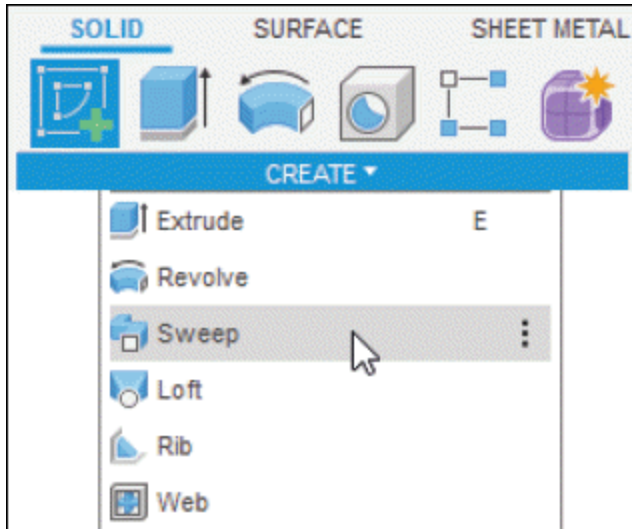
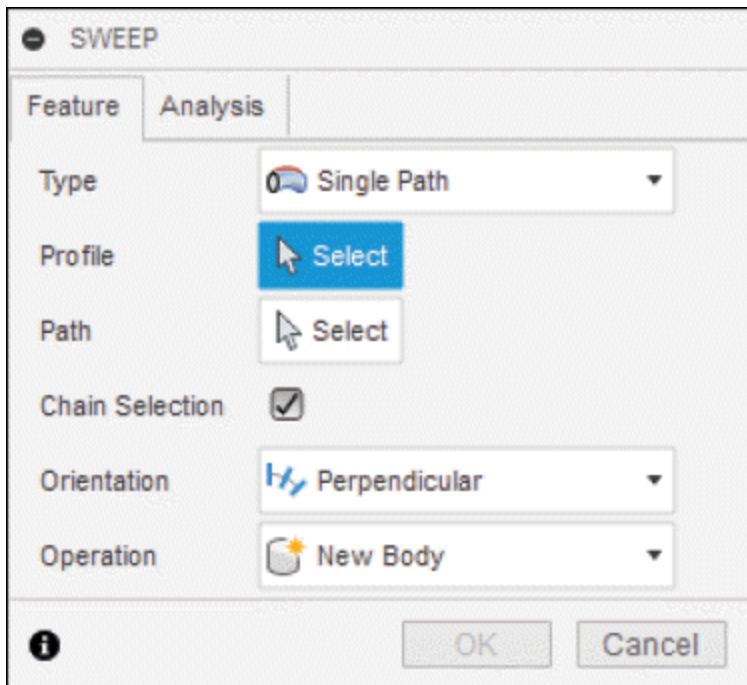

Figure-56. Sweep tool
Figure-57. SWEEP dialog box
- Click on **Sweep** tool from **CREATE** drop-down; refer to Figure-56. The **SWEEP** dialog box will be displayed with **Feature** tab opened by default; refer to Figure-57.